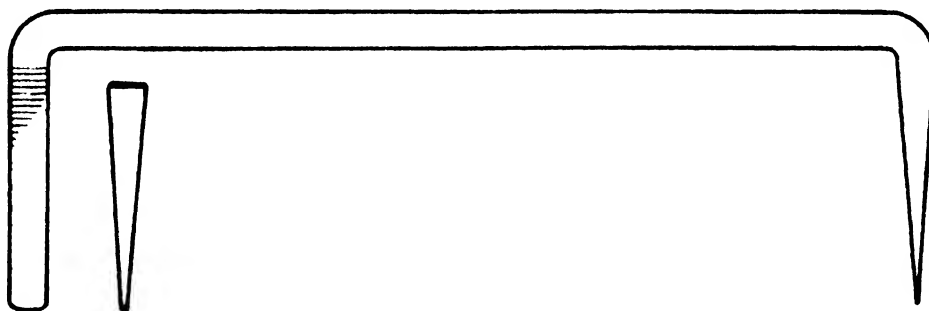

FIG. 40.—A Timber-dog.
**Timber-dogs.**—In the erection of temporary structures composed of sleepers, baulks and battens, the common method of clamping the members is by the use of timber-dogs. The illustration (Fig. 40), is of one of these. They are made of  $\frac{1}{2}$  in. or  $\frac{3}{8}$  in. iron or mild steel, either round or square in section, and bent at the ends as shown after being drawn out to a chisel point. Common sizes are from 9 in. to 15 in. overall, with the spiked ends from  $2\frac{1}{2}$  in. to 3 in. long.